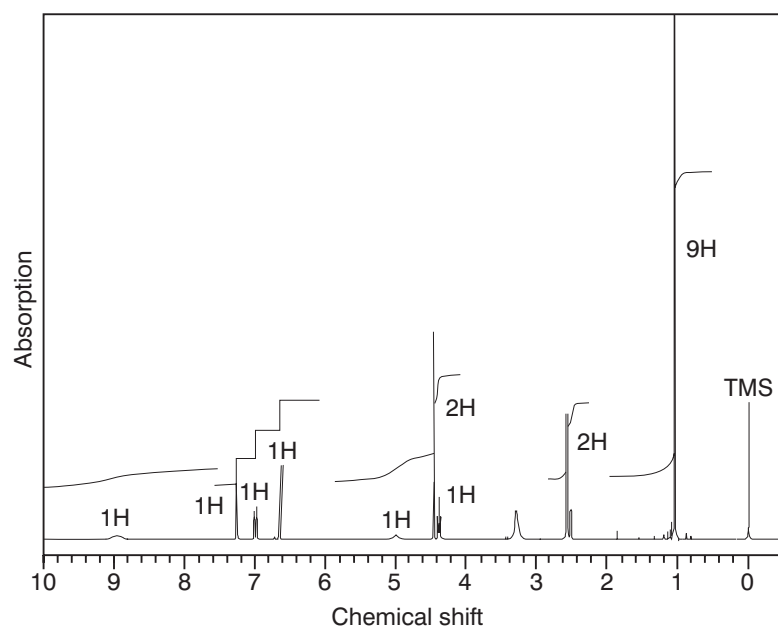

Figure 5 The n.m.r. spectrum of salbutamol
- g The n.m.r. spectrum of salbutamol is given in Figure 5. This also shows the integrated trace, which goes upward in steps. The height of each step in the trace is proportional to the number of hydrogen atoms absorbing at the chemical shift. Suggest which signals correspond to which hydrogen atoms in the salbutamol molecule and give reasons for your choice.